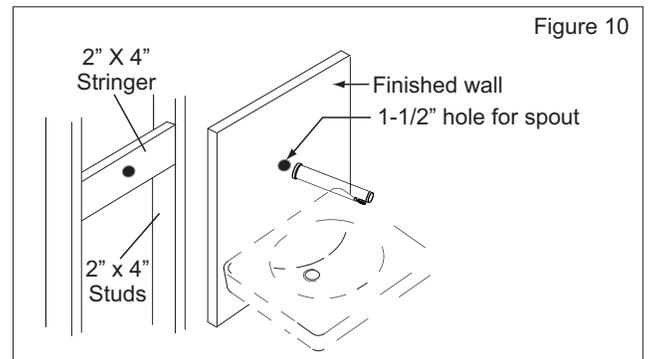

Figure 10
1. Drill a 1-1/2" (38mm) diameter hole at the spout mounting location (center) for the threaded rod and sensor cable to pass through as pictured in Figure 10.